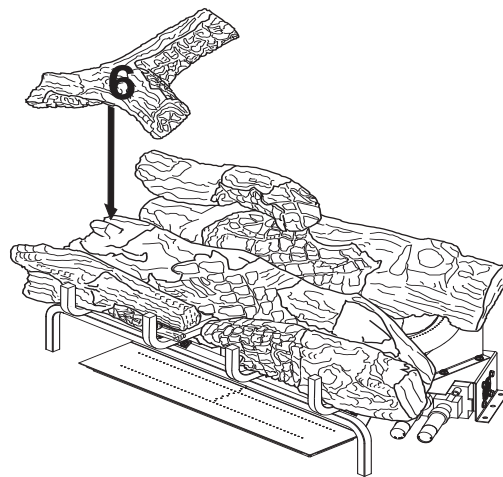

Figure 34 - Installing Log # 6
6. Place the left top front log (#6) on the top of the middle log and the left top back log. Match the rectangular projection on top of the middle log with the rectangular hole on the bottom of the left top front log. The left top front log will rest on the flat part of the left top back log. See **Figure 34**.